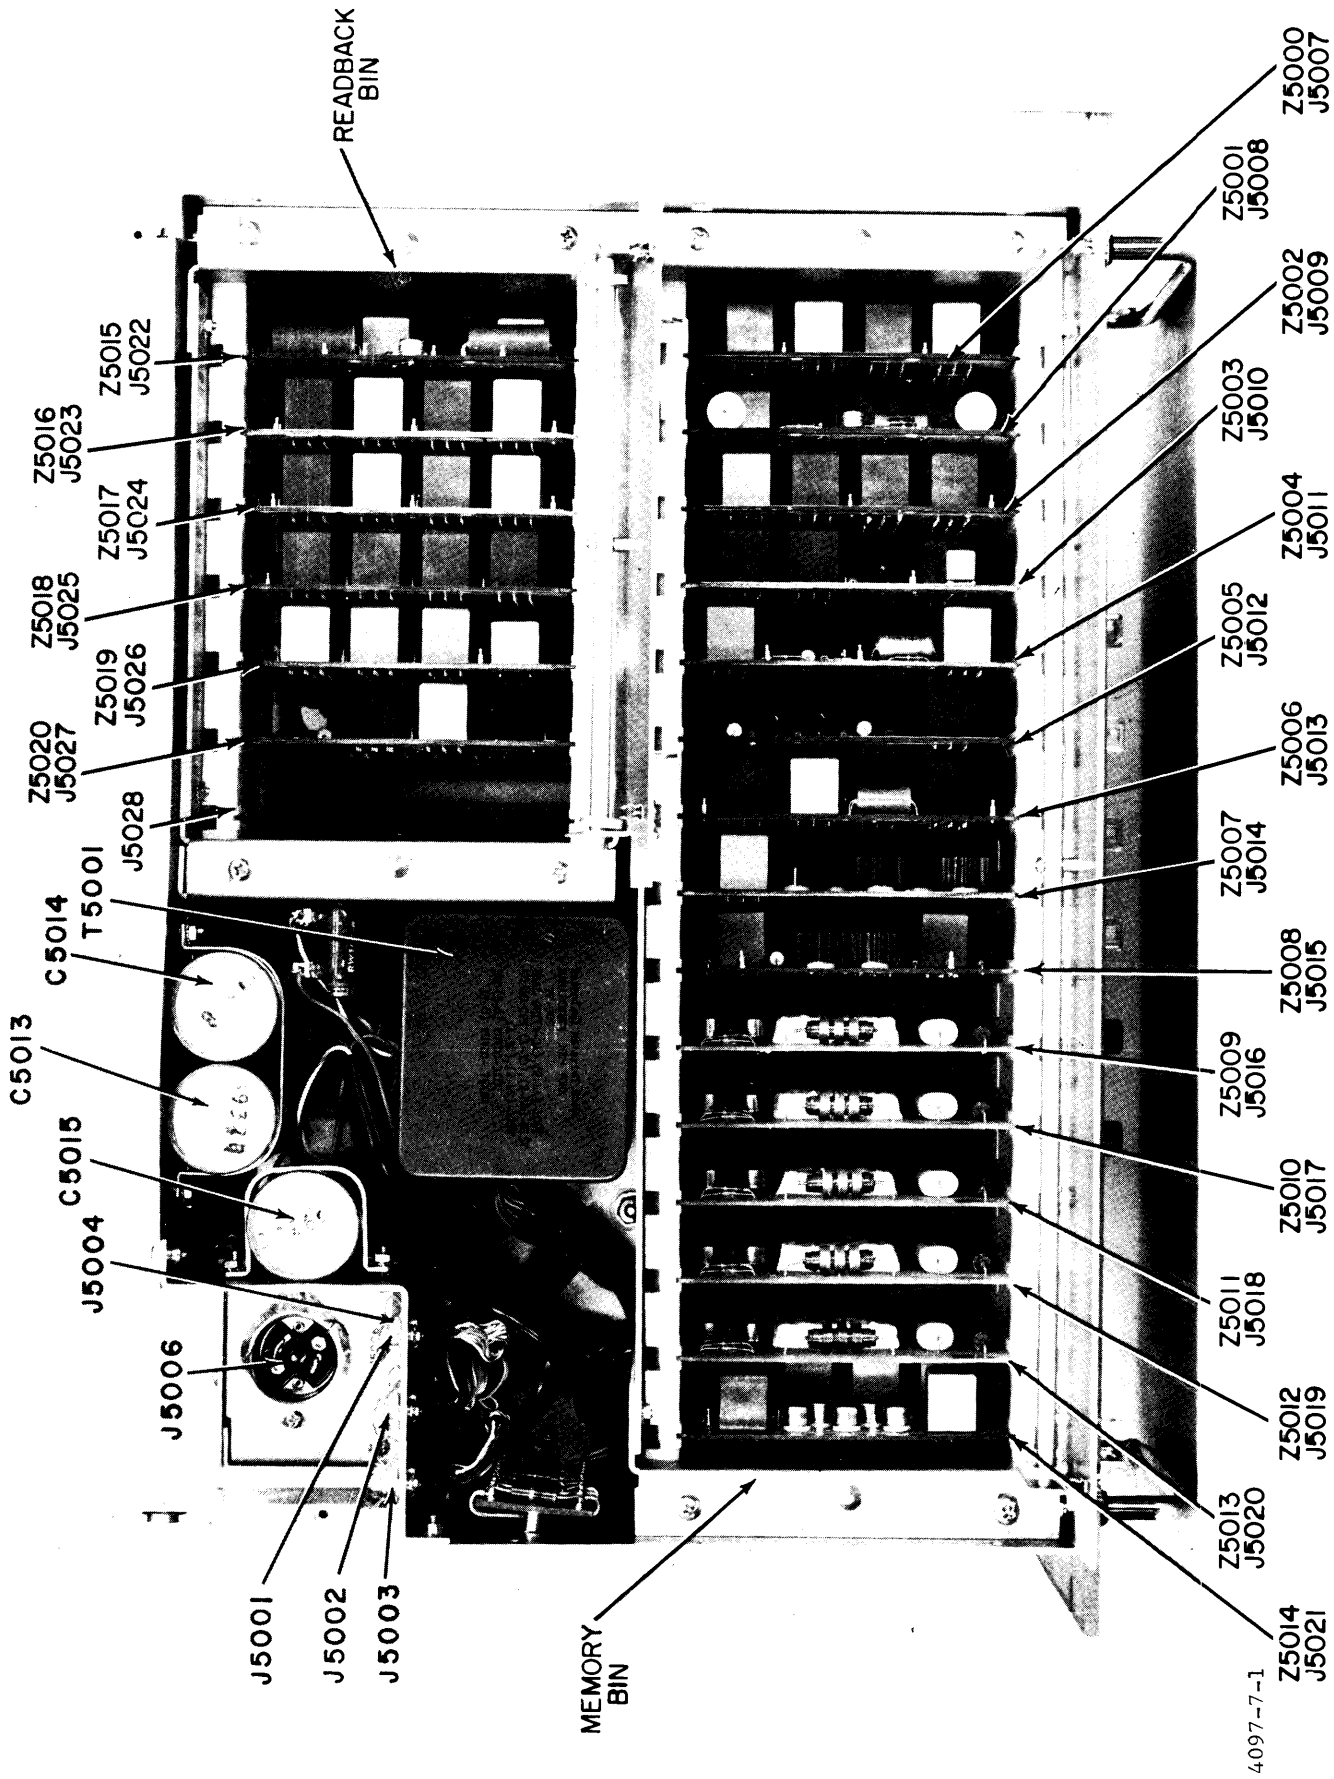

Figure 5-1. Top View, RTMU
The logic circuits in the RTMU are contained on Z5000 series printed circuit plug-in cards mounted in two bins (see figure 5-1). The A-3914 readback diode matrix is a printed circuit card mounted on standoffs under the readback bin on the bottom side of the chassis (see figure 5-2). The rest of the circuit components make up the power supply section. The card Z5000 numbers are the circuit reference symbol numbers; the card "A" numbers are the card assembly part numbers by which they are identified and ordered. The "A" number appears printed on the card and again on the bin wall adjacent to its receptacle, along with its "Z" number and its receptacle "J" circuit symbol number. The plug end of each card contains keying notches and its receptacle in the bin floor contains matching blocks to prevent inserting a card into the wrong receptacle. Some cards, although they are assigned different "Z" numbers, have the same "A" numbers and are identical and interchangeable. These cards have similar keying at their plug ends and in their receptacles.
a. INTRODUCTION. - As an aid to troubleshooting, figures 7-1 and 7-2 furnish normal pulse patterns at test points (TP) on the RTMU printed circuit cards. Also included are figures 5-1 and 5-2, locating cards and major components and figure 5-4 and table 5-2 showing power supply voltage check points and normal voltages.